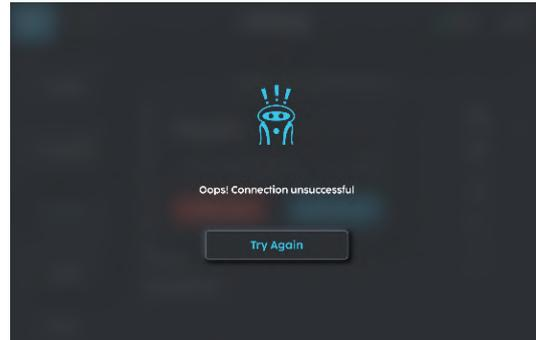

FIGURE 7-7
- Should the user fail to connect to configure the wireless network (**Fig. 7-7**), do check the network configuration settings. Otherwise contact the network administrator.